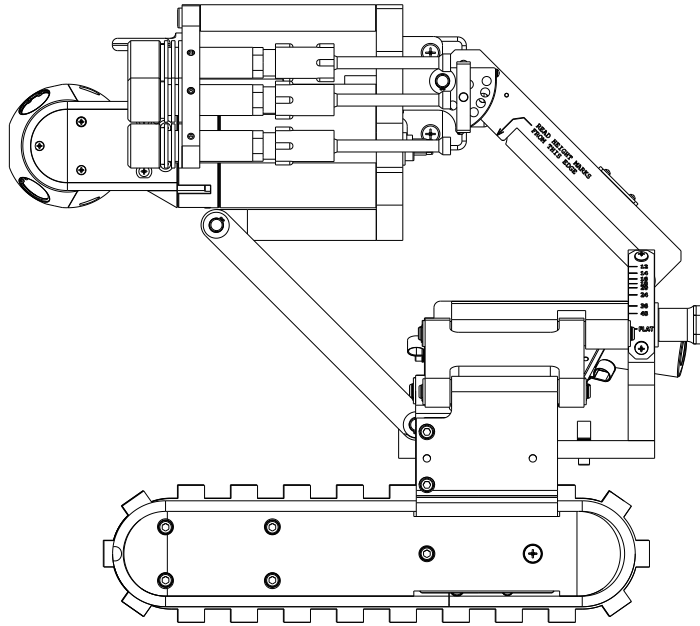

FIGURE 6: PREFERRED RAISE POSITION FOR CAMERA INSTALLATION
1. Adjust the Camera Raise Mechanism to the position shown in Figure 6. This will enable access to the camera installation screws.